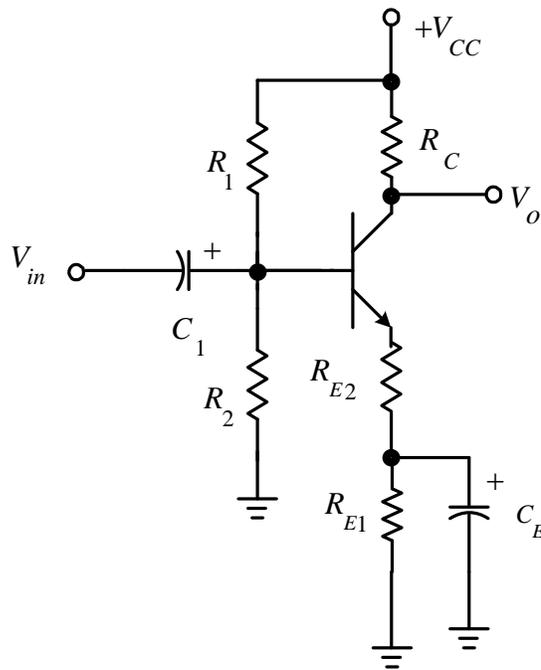

Fig. 3. Splitting the emitter resistor to set the ac voltage gain.
8. Explain how splitting the emitter resistance as shown in Fig. 3, would allow you to fix the ac gain at a value between the values you obtained with and without C_E . If you have time, you could try this with your circuit. If not, it would be instructive to try it out later on paper.